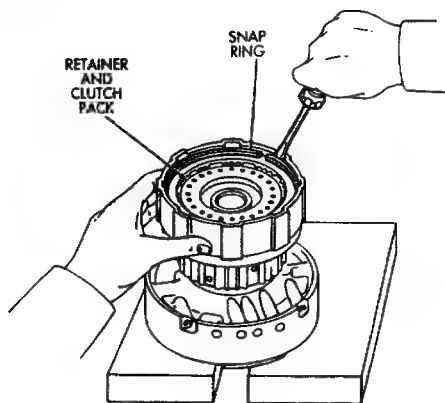

**Fig. 2 Positioning Drum And Support On Wood Blocks**
- (1) Check clutch piston stroke as outlined in following steps.
- (2) Position overdrive support on wood blocks and mount forward clutch drum on support (Fig. 2).
- (3) Remove bearing and race from forward clutch drum (Fig. 2).